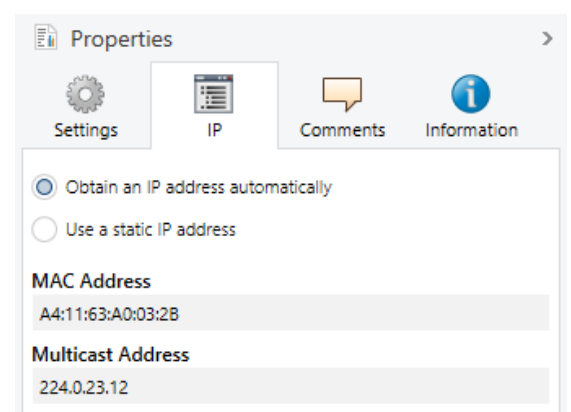

Figure 5: Setting of the IP address data of the device on the "IP" tab in the sidebar of the ETS.
3. Select the "IP" tab as per Figure 5. Now select: